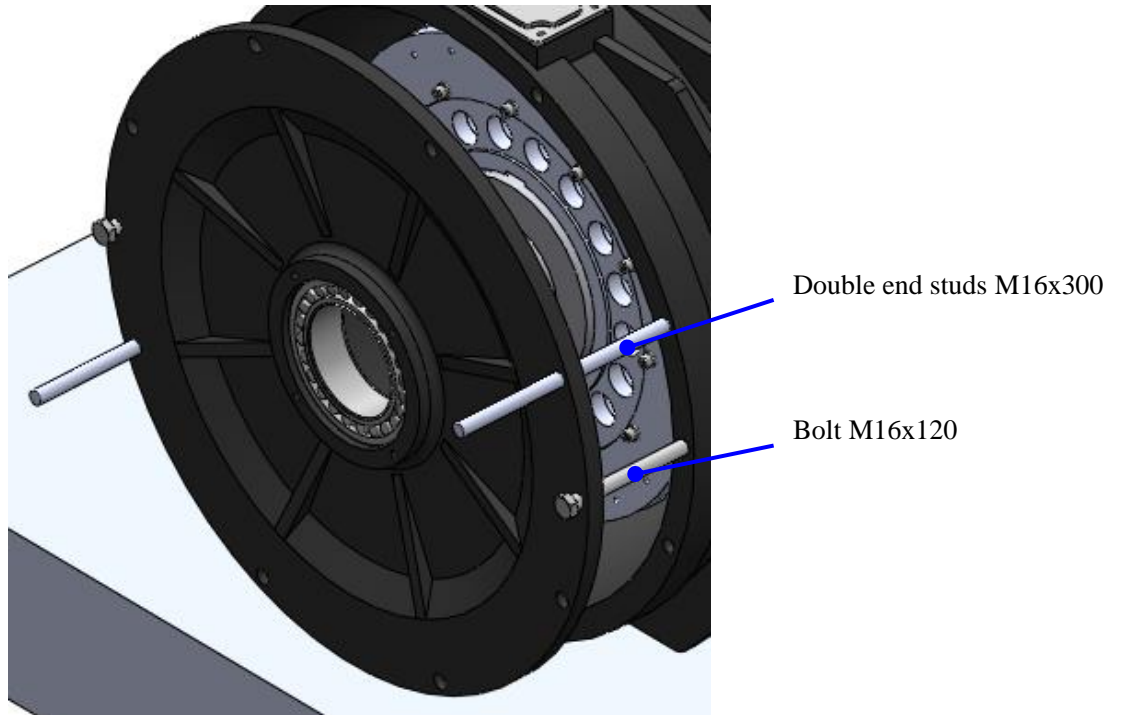

Figure 115: Install double end studs and M16x120 bolts
7. Screw a pair of bolts M16x120-8.8 into the Disassemble threaded holes in back cover, to back the back cover off. See Figure 115.